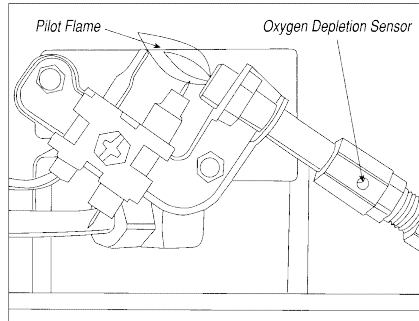

Figure 5
Visually inspect the pilot flame and burner periodically during use. The pilot flame should be blue in color (not yellow) and will extend beyond the thermocouple. The flame will surround the thermocouple just below the tip, see Figure 5.
- 3 Remove (4) four screws that secure the rear cover to the Heater.
- 5 Remove (4) four burner retaining screws and fuel line from burner assembly. Remove burner assembly from back of housing.
- 7 Inspect and clean main burner orifice (threaded into orifice holder). Orifice holder is attached to the burner assembly venturi with (2) two screws.
- 8 Inspect and clean pilot (mounted to bracket) by using a vacuum or apply air pressure through the holes in the pilot indicated by the arrows in Figure 5.